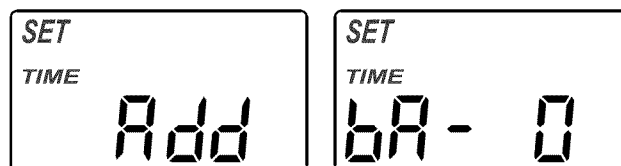

Figure 29
2. Then press (do not hold) the SELECT button twice to display the alternating screens shown in Figure 29.